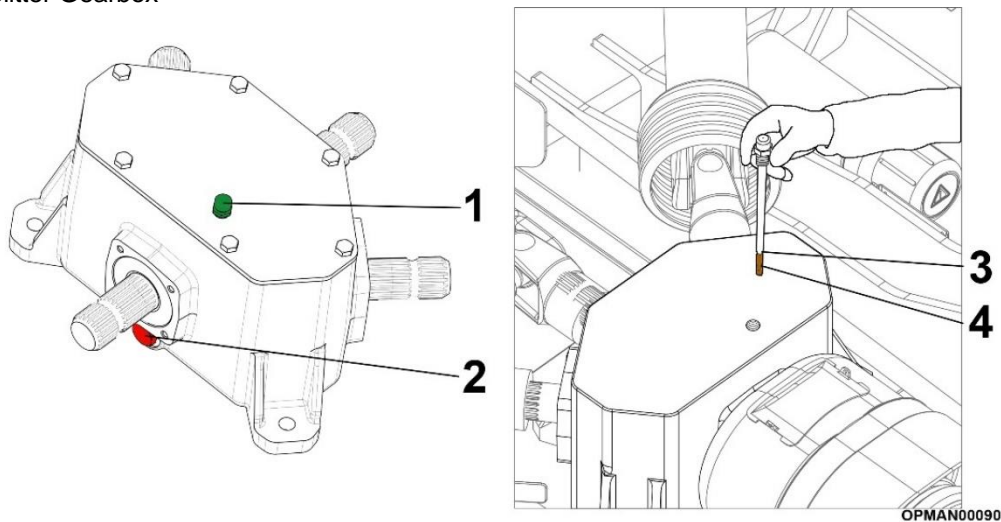
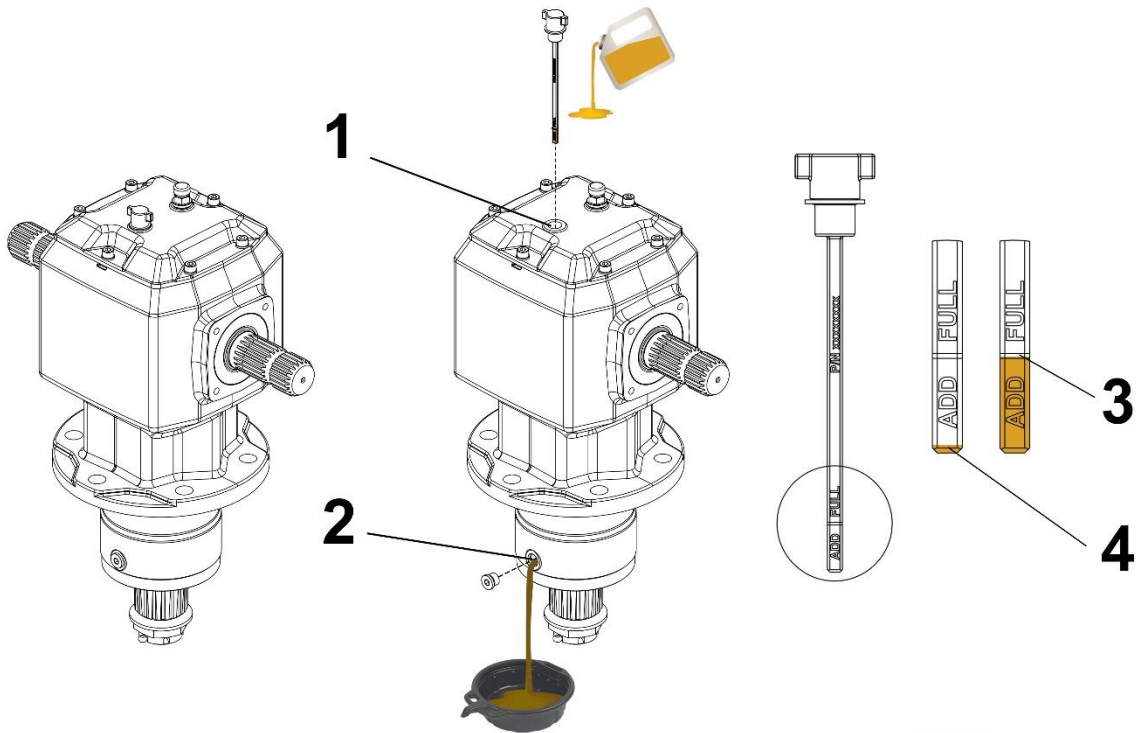

Figure 5.2 – Multicut Splitter Gearbox
Figure 5.3 – Multicut Rotor Gearboxes
The quantity of oil to use in each of the respective gearboxes is determined by the filling marks on the dipstick and the guide quantity to the amount of oil required for the particular gearbox is given approximately in the table below. There are grooves marked in the dipstick with Figures 5.2 (3) and 5.3 (3) showing the upper level and Figures 5.2 (4) and 5.3 (4) showing the lower level.
To drain the oil, each of the gearboxes is fitted with a **drain plug**. With reference to Figures 5.2 (2) and 5.3 (2), the locations of these drain plugs can vary. If there are facilities to vacuum draw the oil out of the respective gearbox, the oil can be changed through the fill hole/dipstick location instead which is considerably easier.
The positioning of the dipstick can vary between gearboxes to check the oil level, due to their engineering restrictions; see Figures 5.2 (1) and 5.3 (1). However, they should always be at the top. The drain plugs for gearboxes are always located near the bottom of the gearbox; see Figure 5.3.
The gearbox should not require additional lubricant unless the box is cracked or a seal is leaking. It is recommended that the oil level is **checked every day before operation** and additional oil added if it's required to bring it up to the upper level mark, see Figures 5.2 (3) and 5.3 (3), **before proceeding to use the machine**. At all times the oil level should be above the lower fill mark; see Figures 5.2 (4) and 5.3 (4) as otherwise permanent damage could be caused to the gearbox. The splitter gearbox guard has a cut-out in order to check the oil level without having to open the guard.